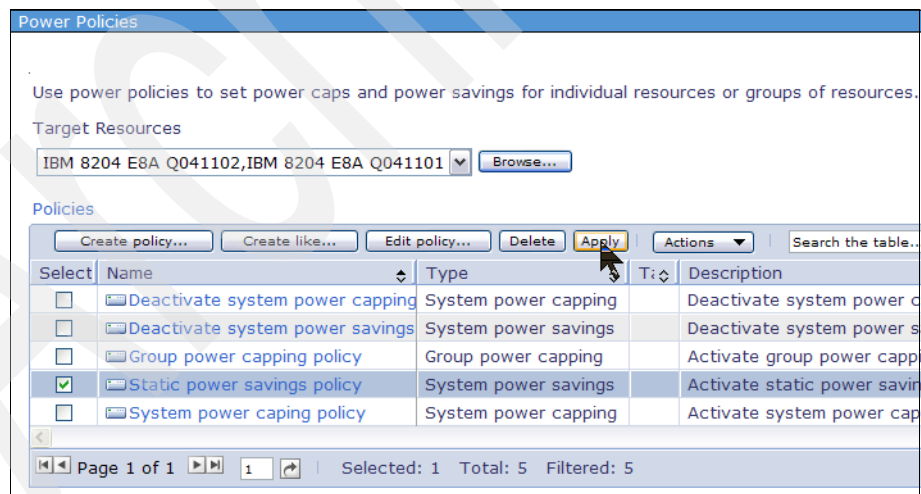

Figure 7-56 Applying a policy - 4
4. Select the policy that you want to apply, and then click **Apply** (Figure 7-56).